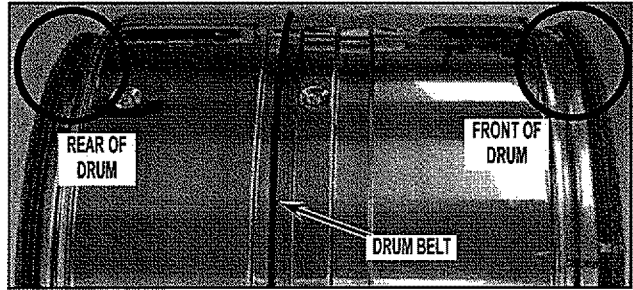

FIGURE 17
IMPORTANT: Note position of drum belt, front and rear orientation for reassembly. The drum front opening is larger than the rear drum opening. See *Figure 17*.
- When reinstalling the drum, see Figure 17 for correct drum front direction.